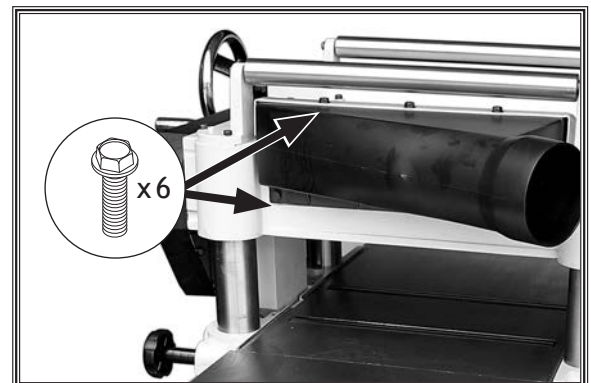

Figure 13. Dust port installed.
8. Attach dust port to planer with (6) M6-1 x 12 flange bolts (see **Figure 13**).